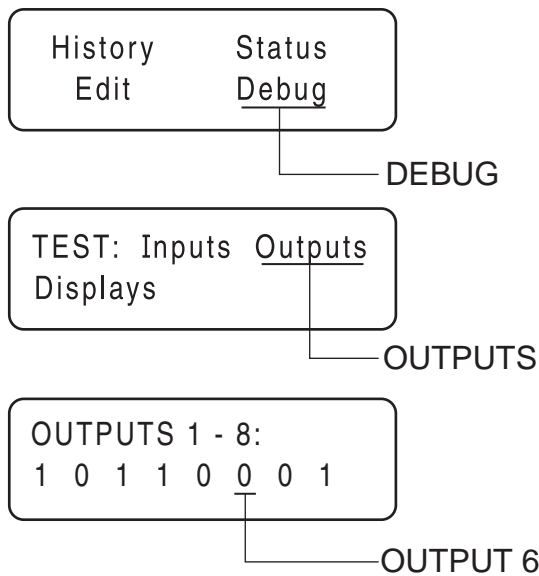

Figure 112. The Home Page, Debug and Output Screens
- f. Digital Output 6 is Wire 56 output from the board. Refer to Figure 112.